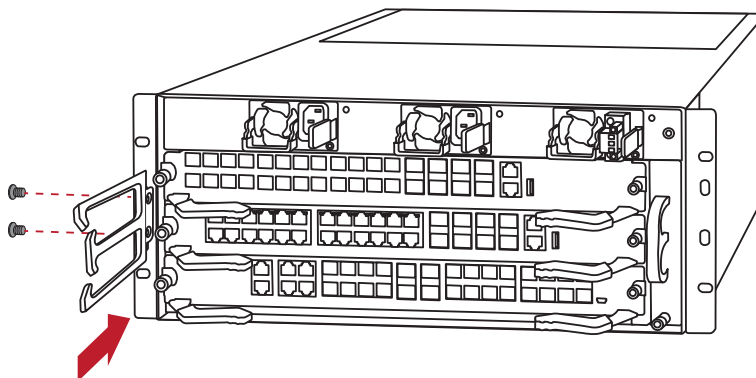
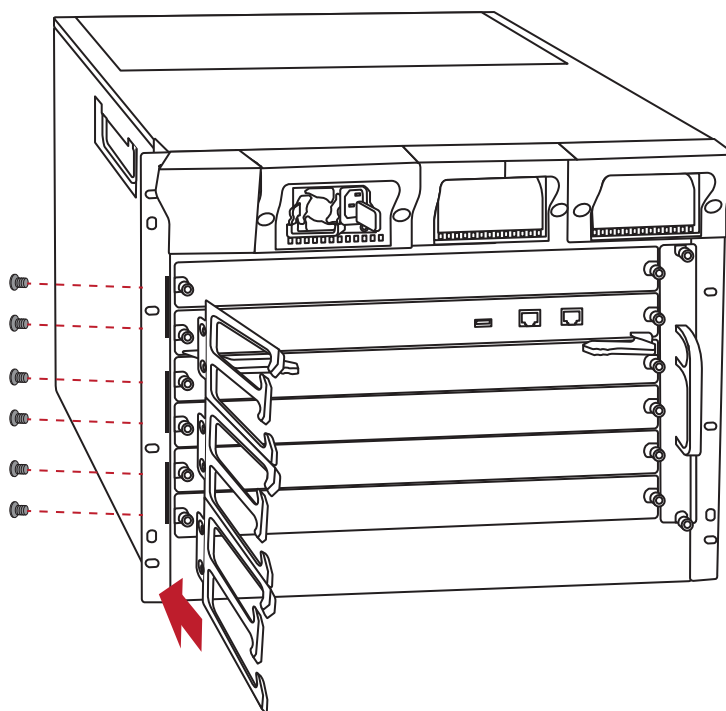

Figure 4-9: Installing CS-6303R in the Wire Rack
Figure 4-10: Installing CS-6306R in the Wire Rack
Step 2: Install it in the wire rack and fasten 6 screws into the Chassis Switch on the left section, as shown in Figure 4-9 and Figure 4-10.